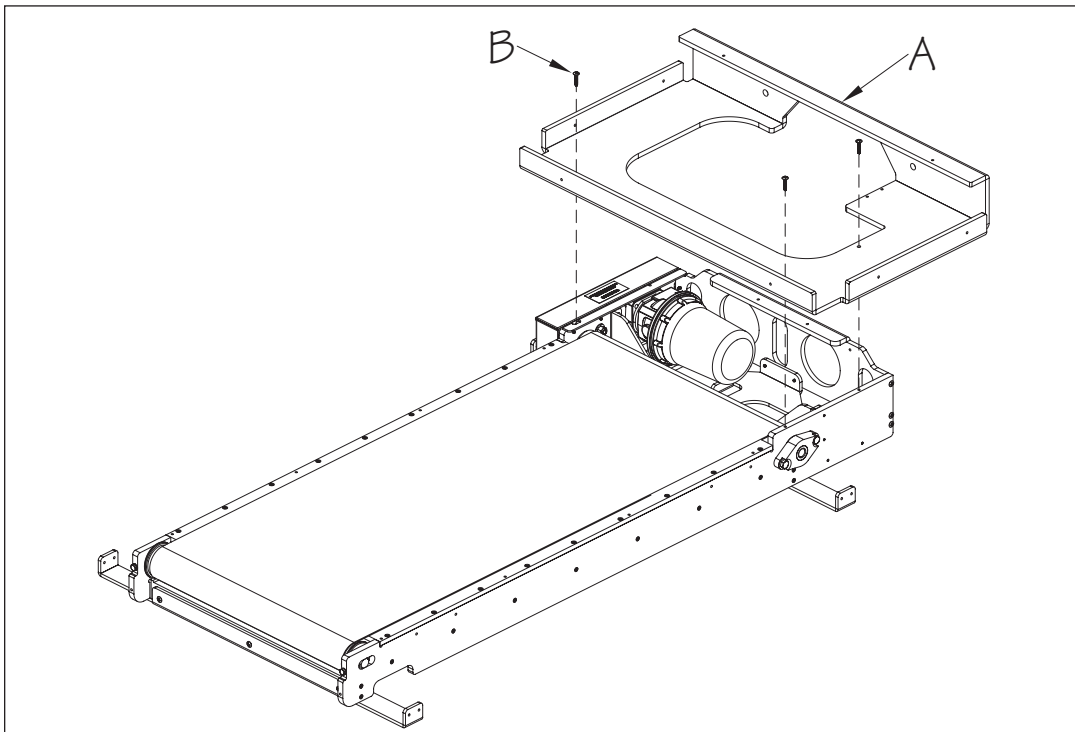

Fig. 5
3. Attach the End Standoff (A) to the front using the 1" (25mm) Phillips Truss Head Screws (B) (Fig. 5).